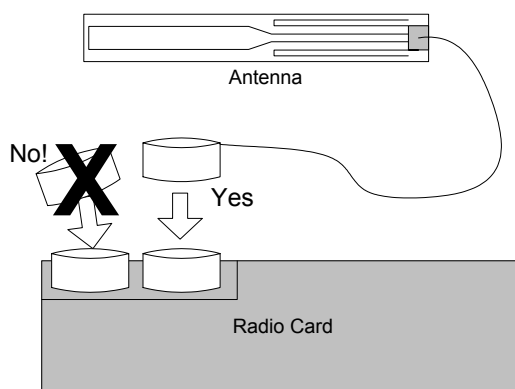

Figure 4-12: Antenna connection to the radio card.
- 2 Reattach the antennas (refer to *Figure 4-12*).
- 5 Carefully connect the two antennas by inserting the antenna connectors into the micro-coaxial connector receptacles on the radio card (either antenna can be connected to either connector). Ensure that the connector and the receptacle in the radio card are properly aligned before applying pressure to connect them (refer to *Figure 4-12*). Do not stress the antenna cables.